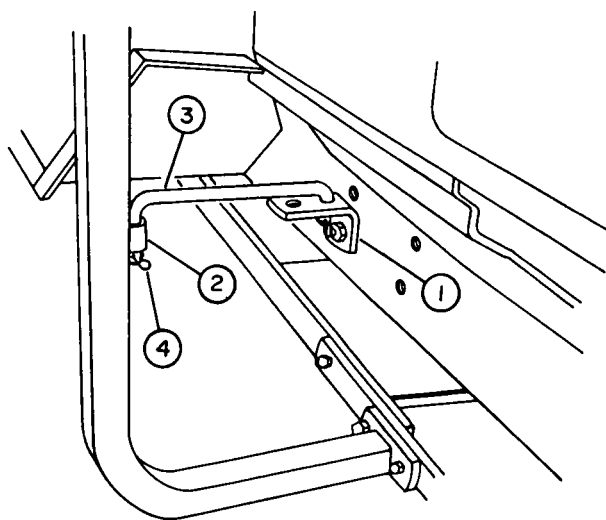

FIGURE 13
- i) Attach L-bracket (fig.13, item 1) to tractor right hand engine side rail in line with valve support using 12mm x 30mm bolt with a lockwasher if tractor does not have loader or a 12mm x 70mm bolt with lockwasher if equipped with loader.
- j) Insert link (fig.13, item 3) in welded sleeve (fig.13, item 2) on valve support and in L-bracket. Secure using two 3mm x 65mm hair pins (fig.13, item 4).
- b) Remove link (fig.13, item 3) from bracket on tractor.
- i) Attach link (fig.13, item 3) to bracket and secure on underside with hair pin.